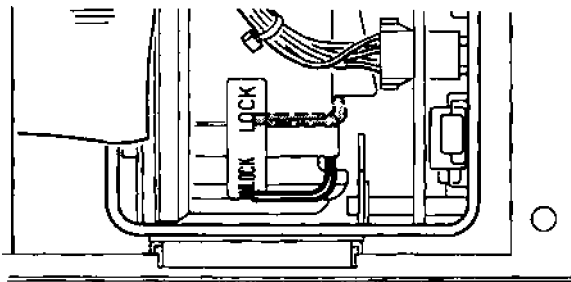

Figure C-2.
4. Move the locking lever to the right, then up and to the left, to lock the head into position. (See figure C-2.)
9. Run the ISIS-II(W) Confidence Test. (See Appendix B.)